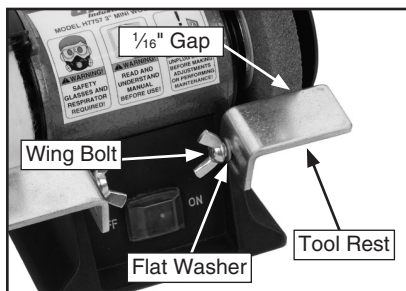

Figure 2. Tool Rest Installation.
2. Adjust both tool rests approximately $\frac{1}{16}$ " from the grinding and buffing wheels and tighten the wing bolts. **Figure 2** shows the correct adjustment for the tool rest at the grinding wheel.